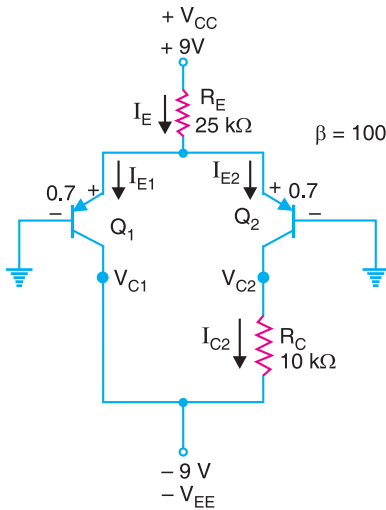

Fig. 25.99
- Find the bias voltages and currents for the differential amplifier circuit shown in Fig. 25.99.